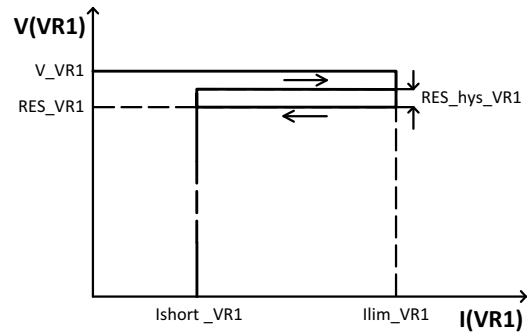

Figure 7. VR1 Current Fold-back
- ♦ VR1 Current Limitation – the two-level current limitation controlled by VR1 reset comparator to reduce the power dissipation in case of shorts to ground by the current fold-back (see Figure 7)